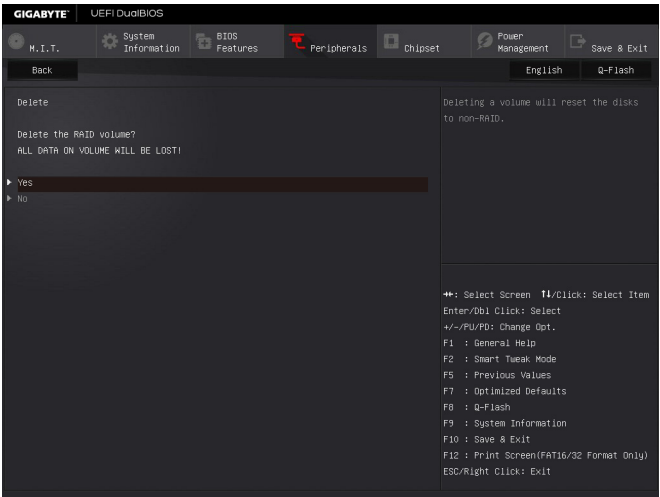

Figure 8
To delete a RAID array, press <Enter> on the volume to be deleted on the **Intel(R) Rapid Storage Technology** screen. After entering the **RAID VOLUME INFO** screen, press <Enter> on **Delete** to enter the **Delete** screen. Press <Enter> on **Yes** (Figure 8).